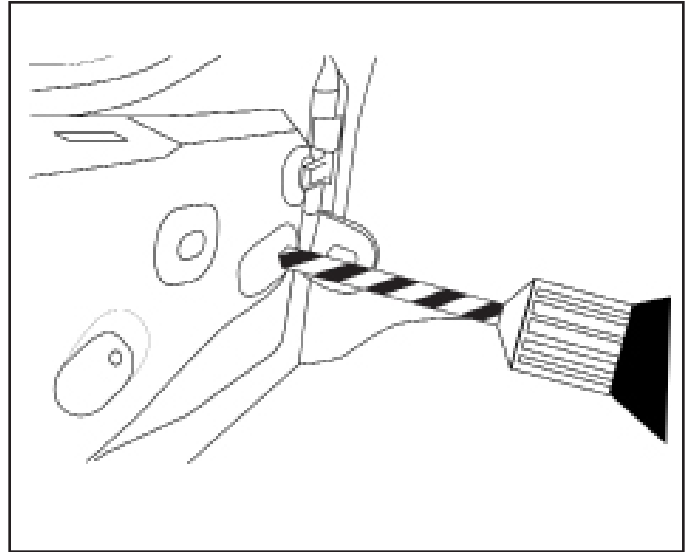

Fig. 5
9. Where the lower push-pin retainer was removed, pull back the trunk liner tab and enlarge the hole using a drill and 1/2" drill bit, fitted with a drill stop set at 1/2". (Fig 5)